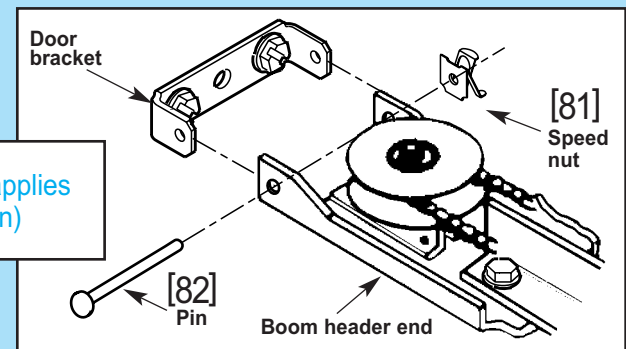

Fig. 2-14
- Install speed nut onto pin (Fig. 2-14).